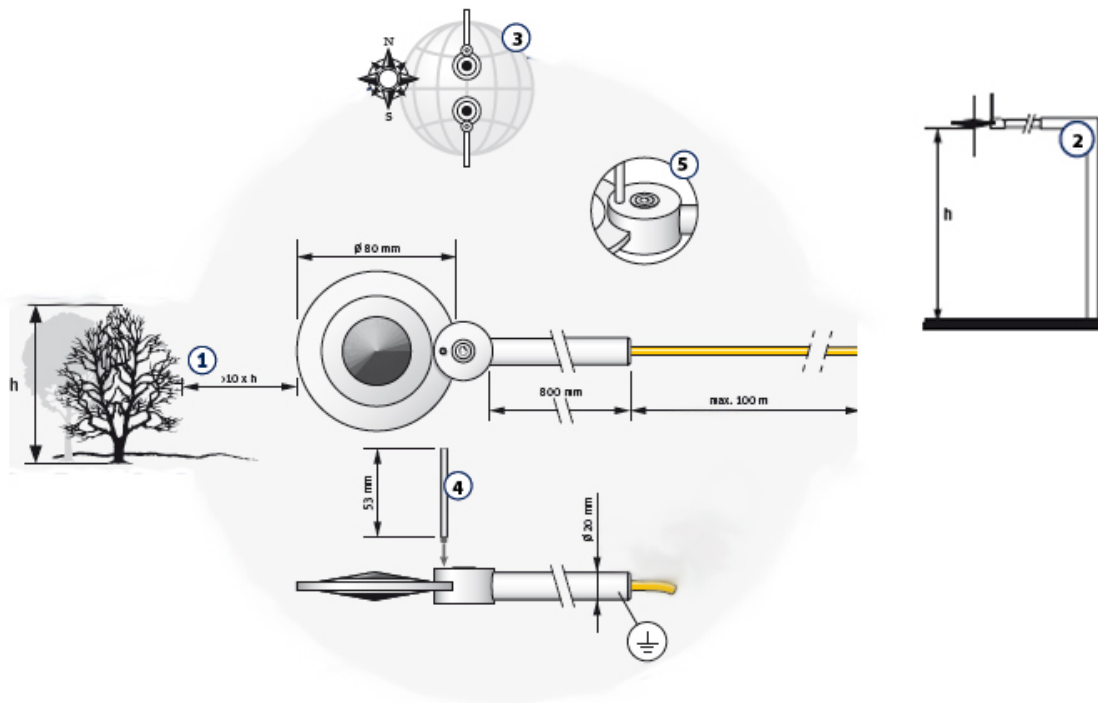

FIGURE 7-1. Siting and mounting diagram for the NR-LITE2
1. Mount the sensor so that no shadows or reflections will be cast on it at any time of day from obstructions such as trees, buildings, the mast, or structure on which it is mounted (1 in FIGURE 7-1).
2. To avoid shading or reflection effects and to promote spatial averaging, the NR-LITE2 should be mounted at least 1.5 m above the ground or crop surface. It is recommended that the NR-LITE2 be mounted to a separate vertical pipe at least 25 ft from any other mounting structures (2 in FIGURE 7-1).
3. Orient the sensor towards the nearest pole to avoid potential problems from shading (3 in FIGURE 7-1).
1. Screw in the bird repellent stick, which is shipped with the calibration documentation (4 in FIGURE 7-1).
4. Perform a coarse levelling of the sensor using the sensor bubble level (5 in FIGURE 7-1).